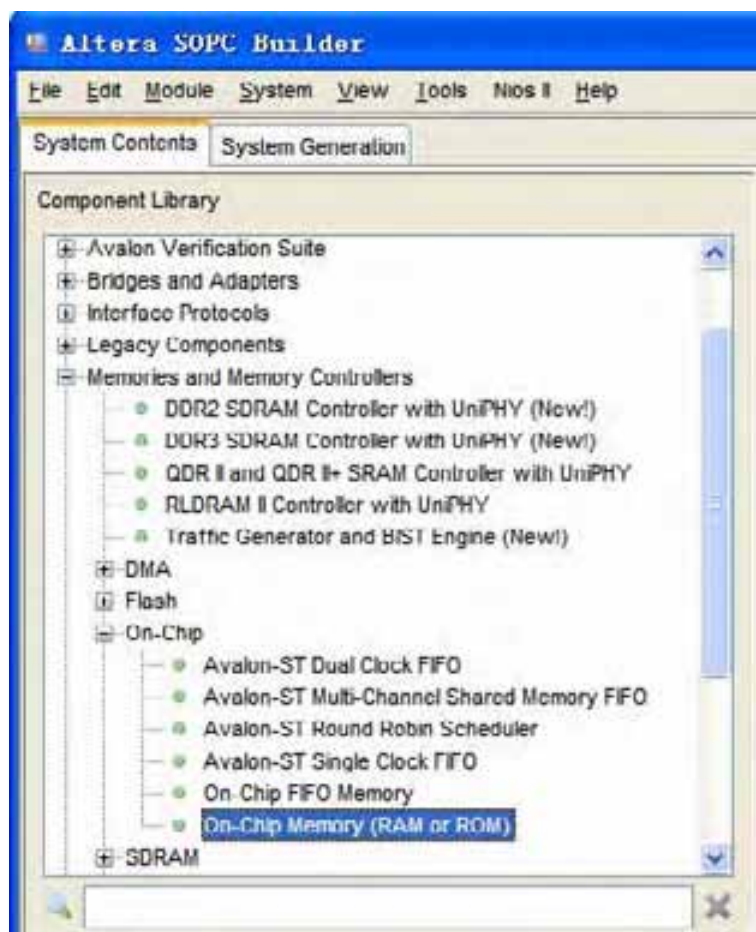
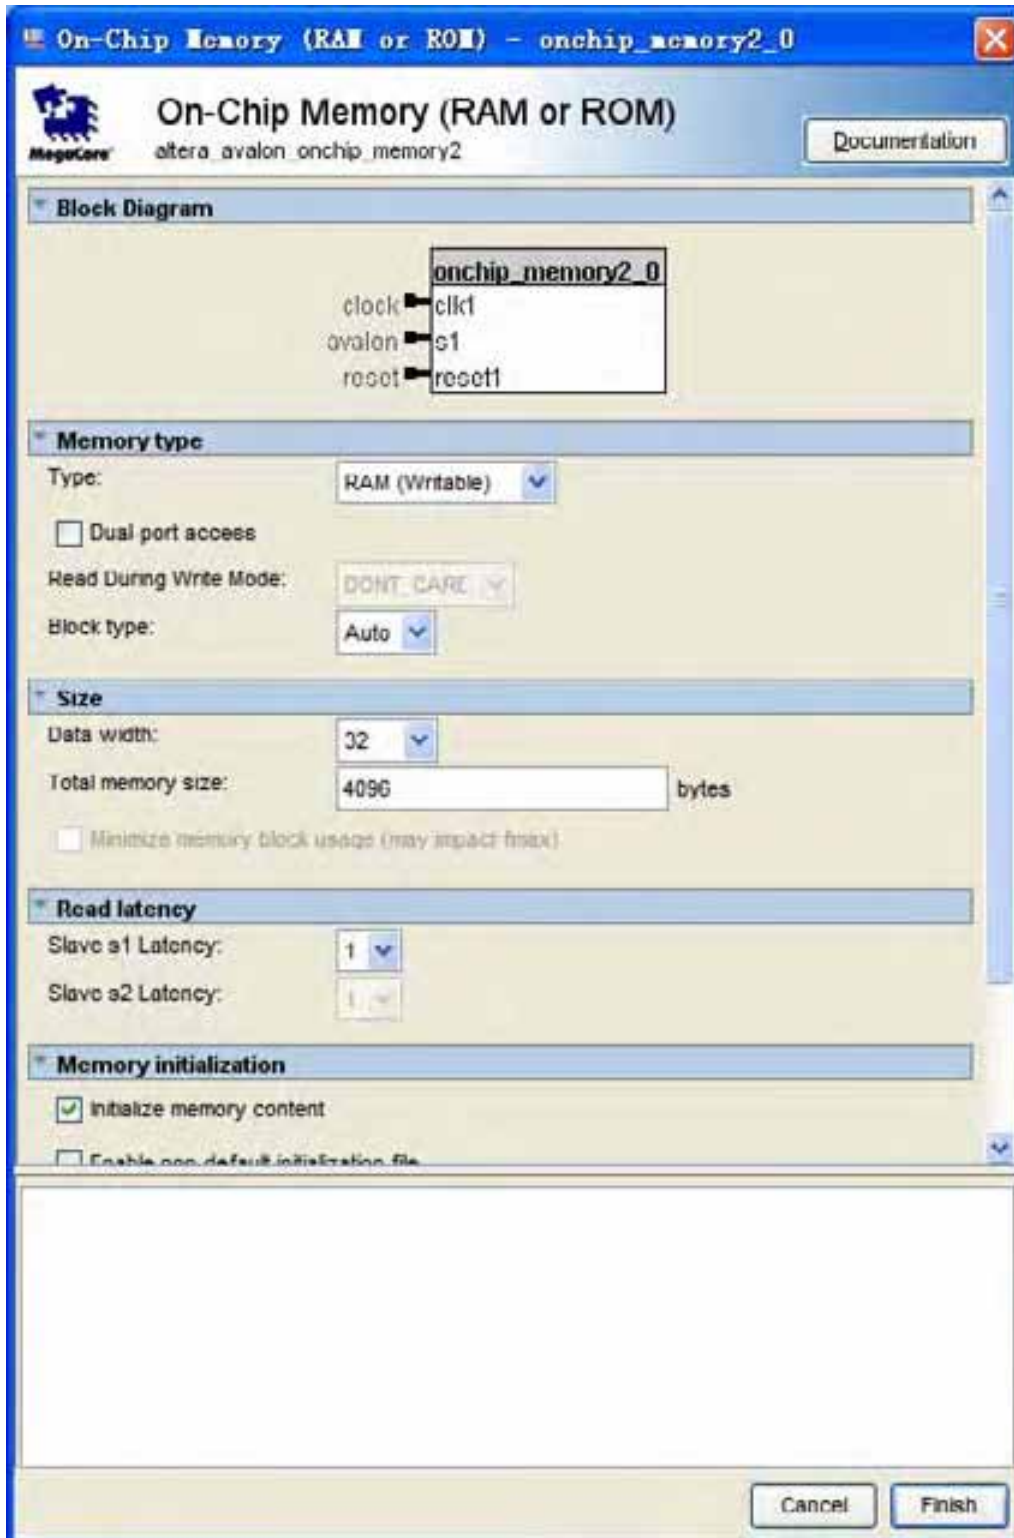

Figure 7-23 Add On-Chip Memory
Figure 7-24 On-Chip Memory Box
15. Add the **Library > Memories and Memory Controllers > On-Chip > On-Chip Memory (RAM or ROM)** component to system, as shown in Figure 7-23 and Figure 7-24.